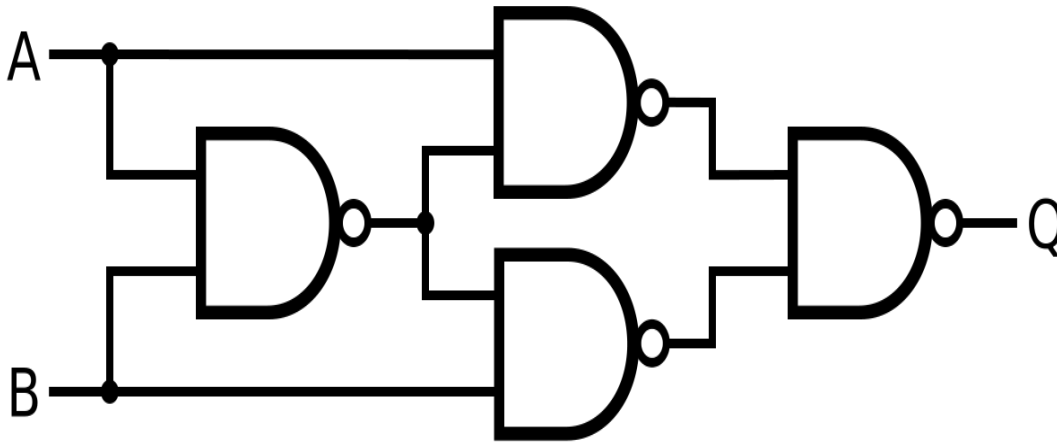

Figure 1: XOR using NAND
- Build the XOR gate using NAND gates, as shown in Figure.1. Where A and B are inputs and Q is the output.